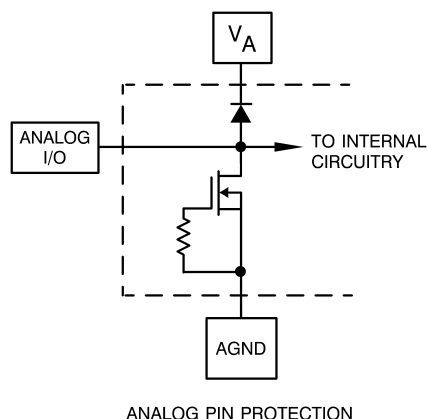
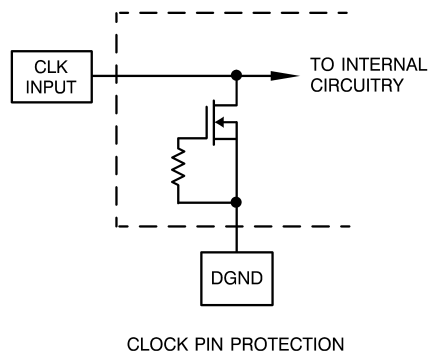
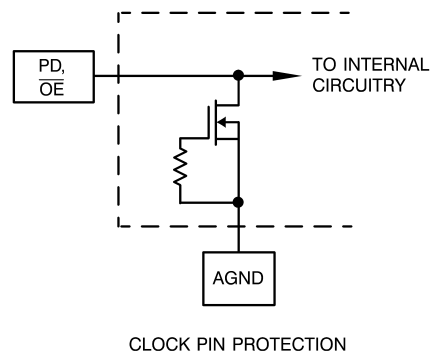

Figure 1.
Figure 2.
Figure 3.
- (1) The inputs are protected as shown below. Input voltage magnitudes up to 500mV beyond the supply rails will not damage this device. However, errors in the A/D conversion can occur if the input goes above V_A or below AGND by more than 300 mV. See Figure 1, Figure 2 and Figure 3.
- (2) Typical figures are at $T_A = T_J = 25^\circ C$, and represent most likely parametric norms.
- (3) Tested limits are specified to TI's AOQL (Average Outgoing Quality Level).
- (4) When the input signal is between V_{REF+} and $(V_A + 300mV)$, the output code will be 3FFh, or all 1s. When the input signal is between -300 mV and V_{REF-} , the output code will be 000h, or all 0s.